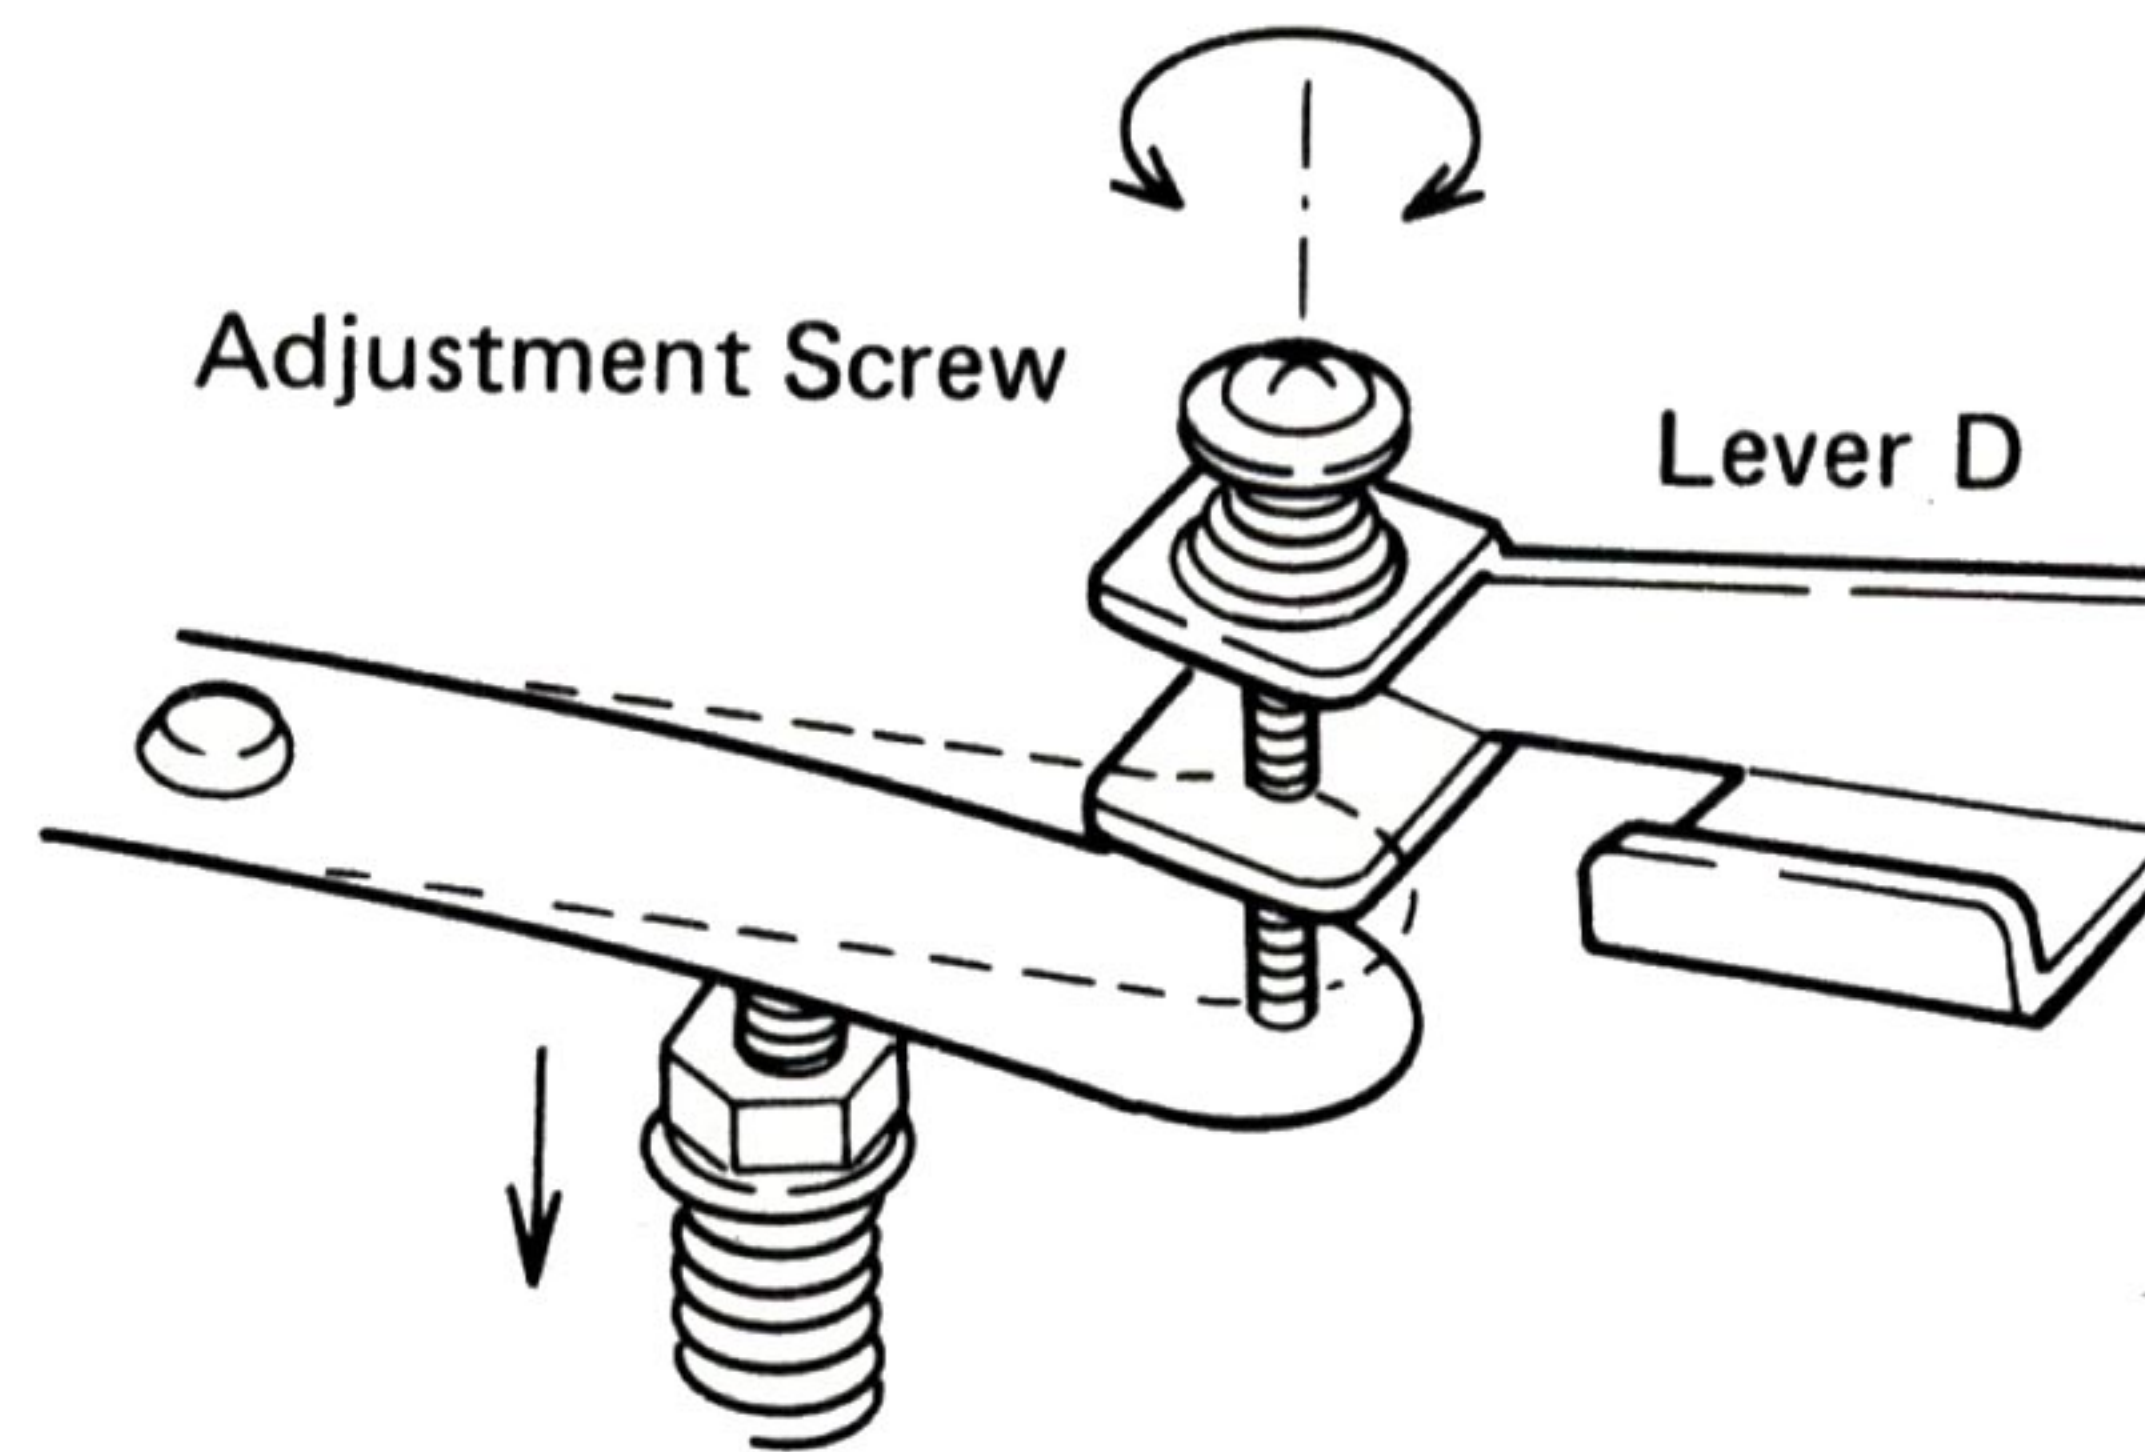

Fig. 25
- Push the START button to put the unit in operation. Then pull the AC cord from the wall outlet while the arm elevator is in UP position. Now turn the adjusting screw on lever D so that the gap between stylus tip and record surface is 8mm (Fig. 25).